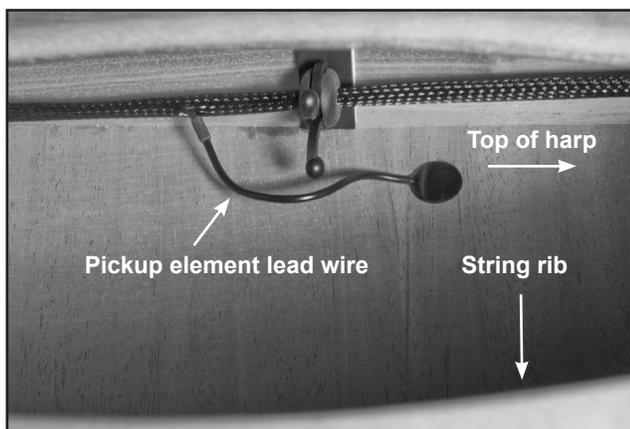

Figure 7 – Pickup Element Installation
2. Orient the harness so the pickup element lead wires point toward the string rib, away from the side of the harp (*see figure 7 on next page*).
- d. The lead wire should naturally curve away from the soundboard (*see figure 7*). If necessary, adjust the pickup harness in the clips to ensure that the lead wires won't touch the soundboard and cause unwanted vibration.
- e. For all Dusty Strings harp models except the FH36S, the pickup element lead wire will bend upward, toward the top of the harp (*see figure 7*).